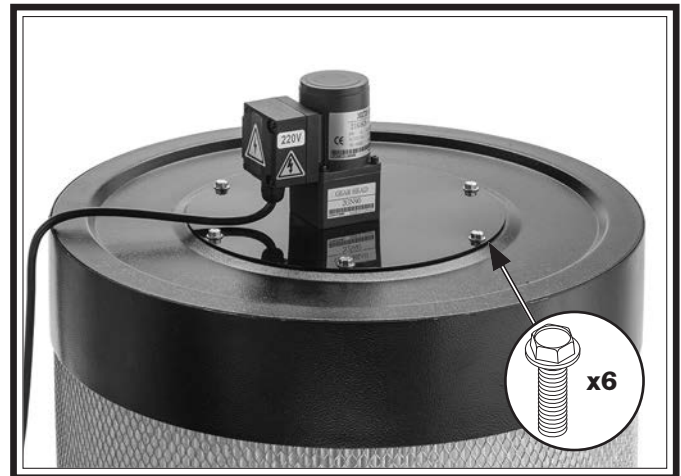

Figure 21. Filter cover assembly attached to canister filter.
18. Attach filter cover assembly to canister filter with (6) ¼"-20 x ¾" flange bolts (see **Figure 21**).